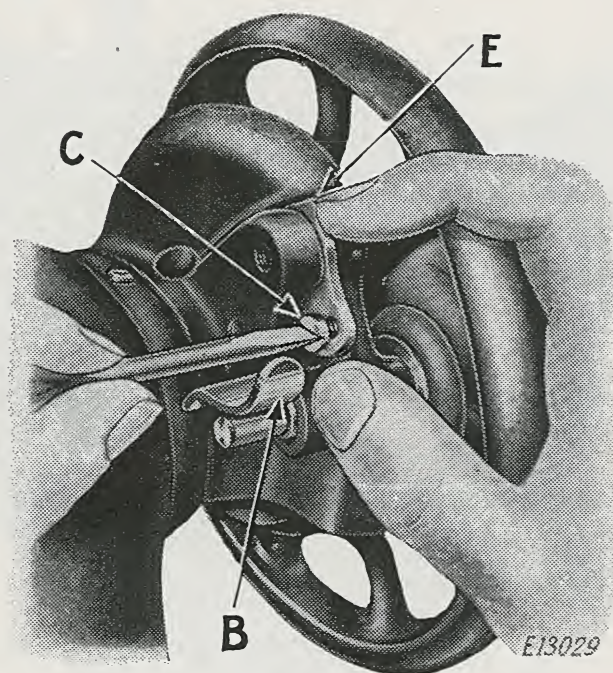

FIG. 6. ADJUSTMENT OF BOBBIN WINDER
the latch (B, Fig. 6) drops down and holds it, then loosen the adjusting screw (C, Fig. 6). With the forefinger, push back the upper end of the slotted plate (E) as far as it will go, as shown in Fig. 6, and at the same time press the bobbin winder pulley against the hub of the balance wheel, then tighten the adjusting screw (C).